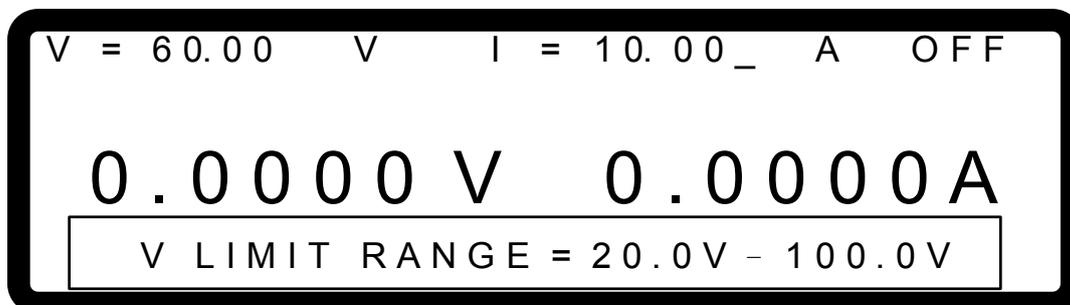

Figure 3-17
2. Use the numeric ( ~ ) keys or “Rotary” () knob to set the value. Use this option can narrow down its range by setting the MIN and MAX. When “” is pressed to set the output voltage, the DC Power Supply allows setting the voltage within the range of [MIN value ≤ user-defined value ≤ MAX value]. Take example by 62150H-600, the V LIMIT: MAX=100V, MIN=20V. If the setting exceeds the output voltage 110V set by the user, the BUZZER will beep one time (if BUZZER is set to ON) and the main screen will prompt a warning message automatically as shown in Figure 3-17 below.